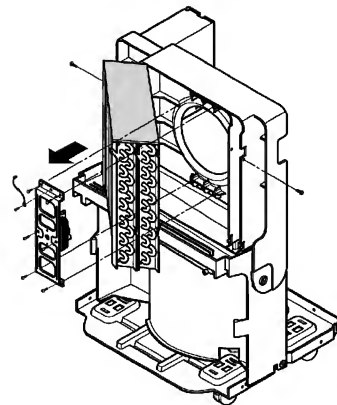

Figure 23
4. Unfasten 3 screws that secure the Motor and earth wire. (See Figure 23)